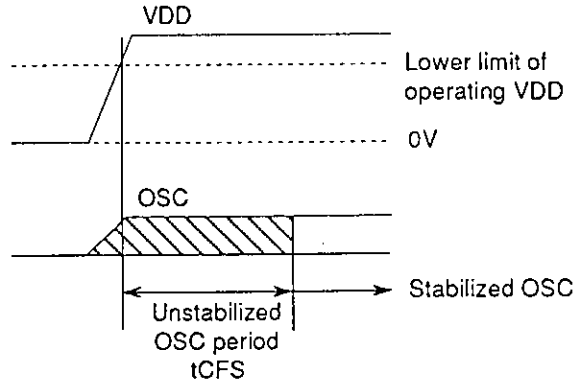

Fig. 4 Oscillation Stabilizing Period
- (\*1) When oscillated internally under the oscillating conditions in Fig.4, up to the oscillation amplitude generated is allowable.